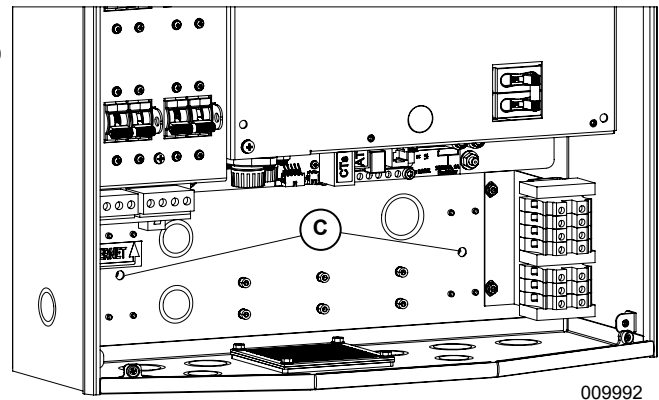

Figure 4-4. Mounting Holes
4. See Figure 4-4. Secure the bottom of the inverter to wall with two fasteners through mounting holes (C). Holes are spaced at 11 1/4 in. from each other. Use anchors or blocking as needed.